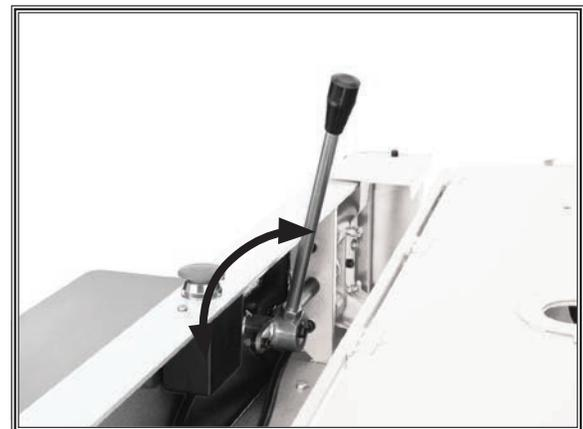

Figure 6. Belt tensioning lever in released position.
3. Lift belt tensioning lever, as shown in **Figure 6**.